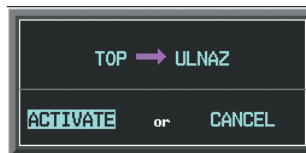

Figure 5-121 Confirm Active Leg
- c) Select the **ACT LEG** Softkey. The confirmation window is now displayed as in Figure 5-121. Note the TOP to ULNAZ leg is actually part of V4.